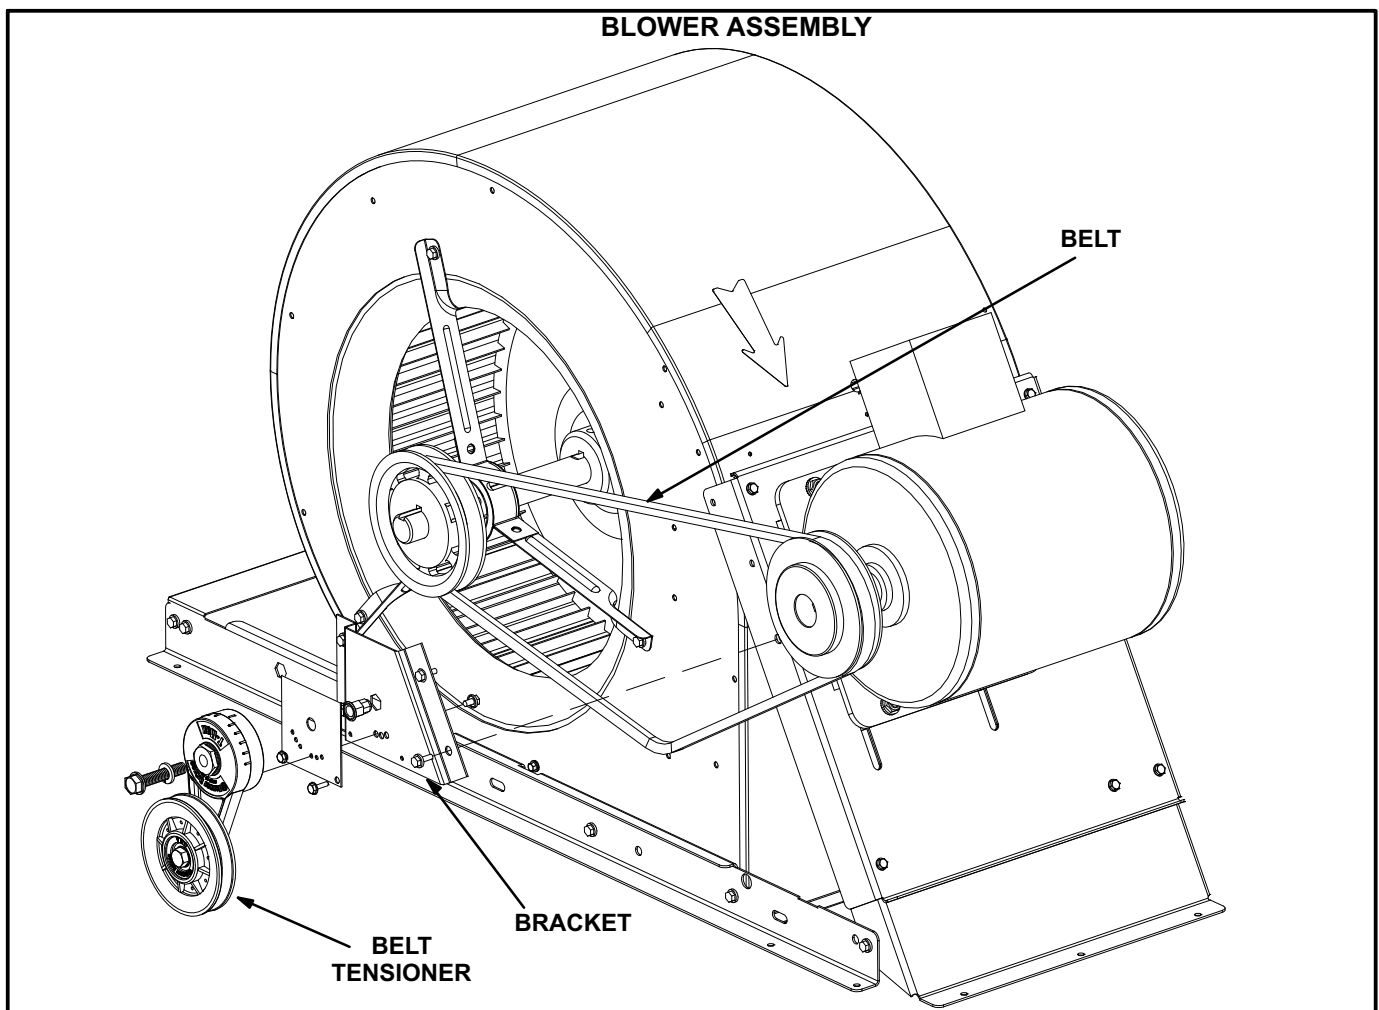

FIGURE 1
- 1- Remove blower belt. See figure 1.